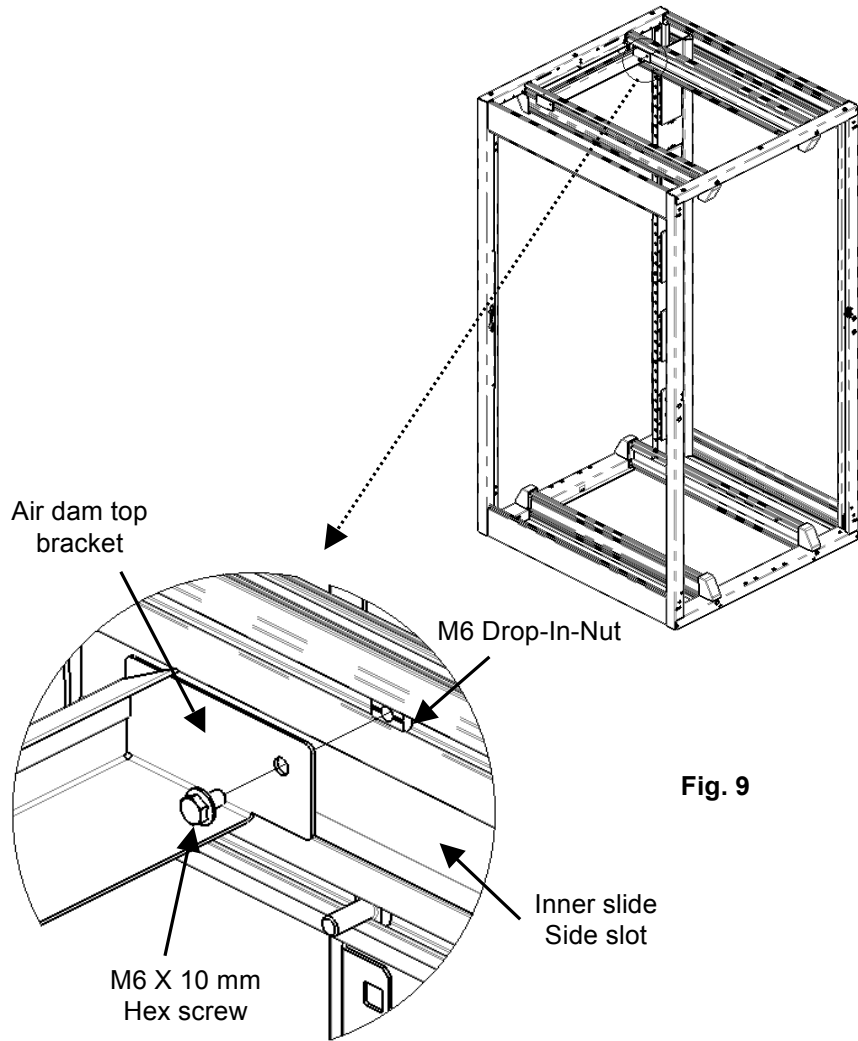

Fig. 9
6. Attach top bracket using M6 X10 mm screws. Slide forward until over the rails and secure (Fig. 9).